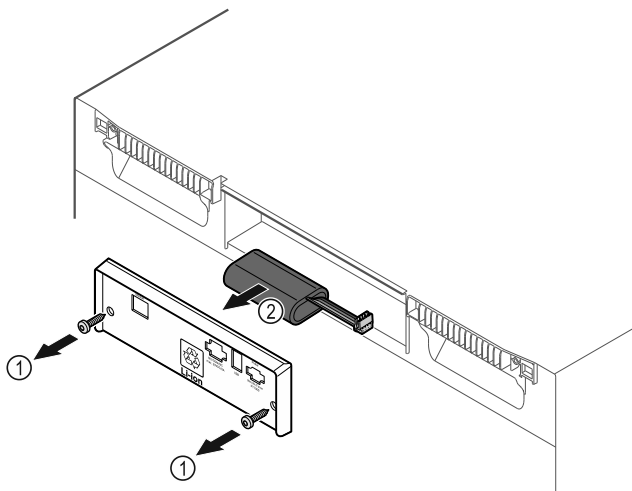

Fig. 235
- ▶ Unscrew screws and remove cover from the back of the appliance Fig. 235 (1).
- ▶ Disconnect and remove battery Fig. 235 (2).